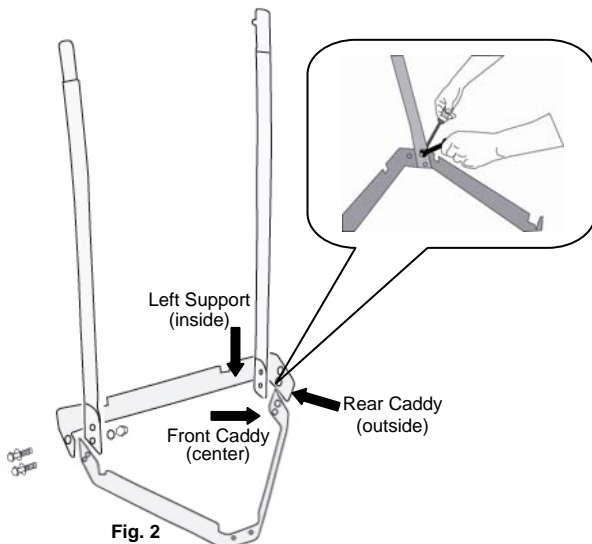

Fig. 2
2. Make sure the notches on the caddy frame pieces are sitting open side up. Fit the front caddy frame into the rear caddy frame. (Fig. 2)
5. On the inside place a washer onto the bolt and fasten with locking nut [C]. (Fig. 2)